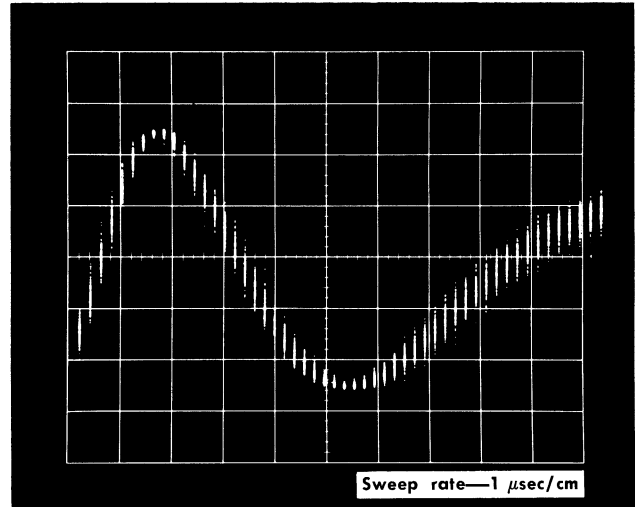

Fig. 5-25. Typical false sampling display with SAMPLES/CM CAL (R415) set within 0.5%.
g. **Check** for a false display similar to that shown in Fig. 5-25. If the number of cycles in the display is less than 2.5, the dot spacing is adjusted within 0.5%. Required accuracy is within  $\pm 3\%$ .